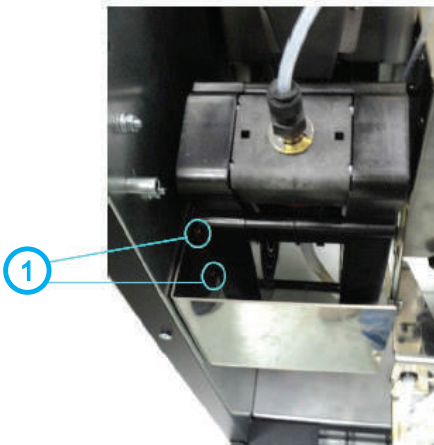

Fig.4.4
4. To install the baffle plate, hang it on the bolt (see fig.4.4 pos.1), which is situated on the left inside wall of the vending machine's body under the espresso group.